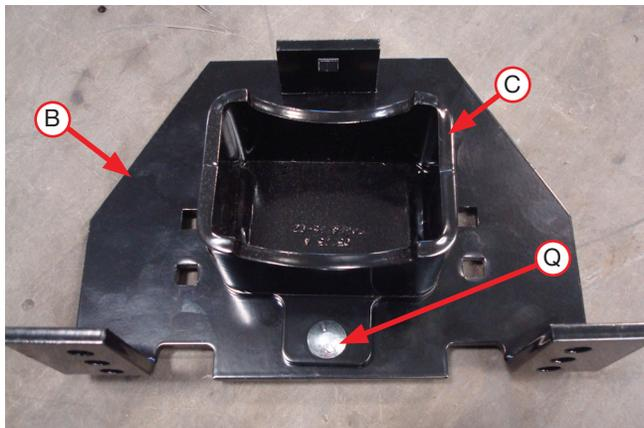

Fig. 10
- Install the lower bracket cup (C) onto the lower bracket (B) using a 5/16"-18 x 3/4" carriage bolt (Q) (Fig. 10). Cap with a 5/16"-18 serrated flange lock nut (R) (Fig. 11). Snug the bolt, but leave loose enough for the bracket to move freely in the slot.